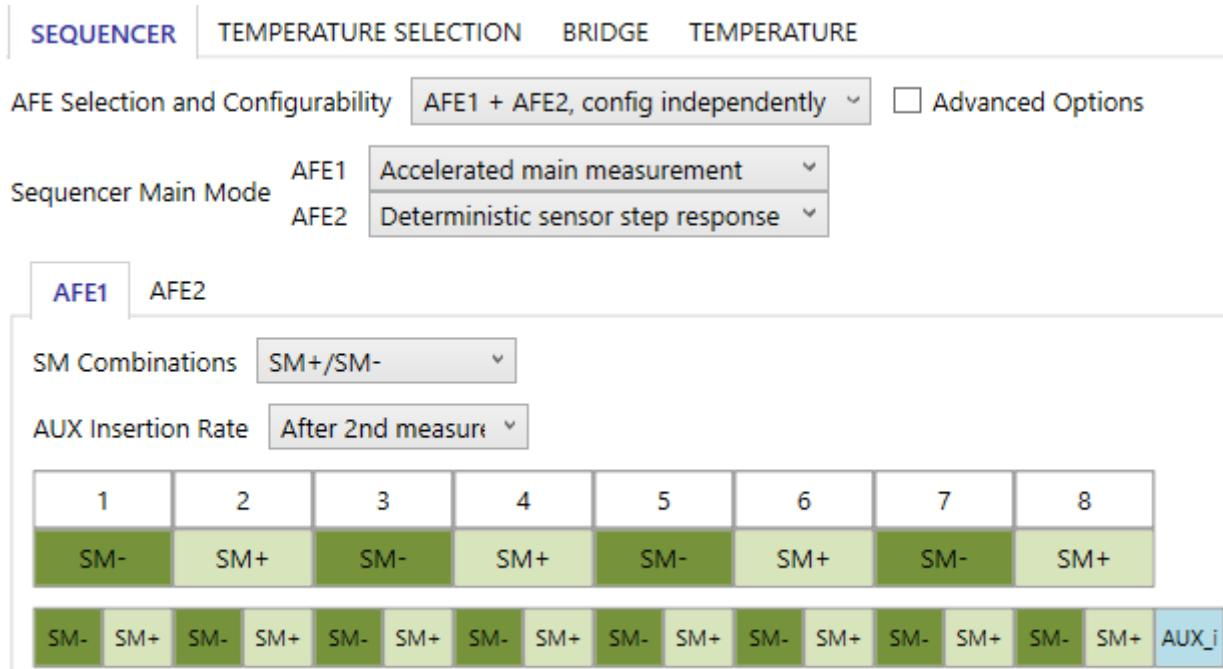

Figure 45. Accelerated Measurements
- Accelerated main measurement (see Figure 45): this measurement scheme is faster than the 'Deterministic sensor step response' which can lead to noticeable timing overhead due to analog frontend settling times. 'Accelerated main measurement' returns a measurement with 1 bit less effective resolution (setting the same physical resolution in both scenarios).